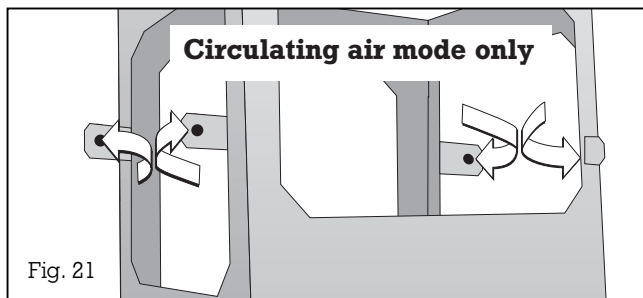

Fig. 21
**Circulating air mode only:** there are four brackets, which fix the circulating air switch module to the top of the support frame. These should be bent outward in a 90° angle (Fig. 21).